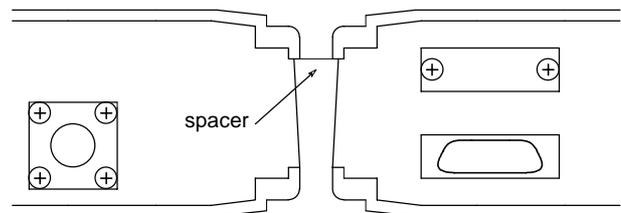

Figure 2 Spacer Fitting
7. Fit the spacer bracket between the two T800 Series II modules at the rear as shown in Figure 2.